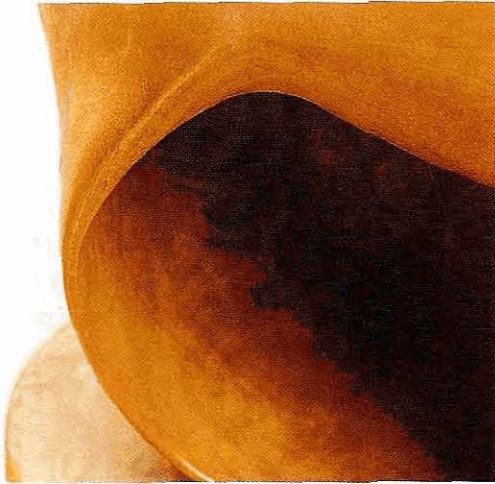

Fig 6.57 Simple, bold lines and planes are well suited to a wood such as elm
- Does the carving depend on the light and shadow of a detailed design, the wood primarily being a vehicle for this; or is the wood figuring of primary importance, with a broader, more 'shaped' approach to the carving (Fig 6.57)?